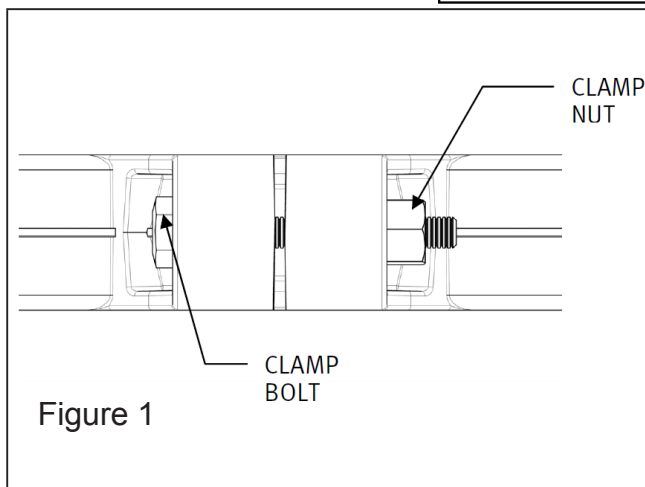
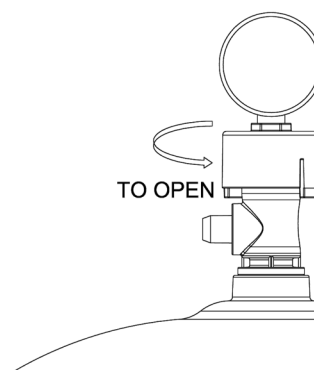

Figure 1
Figure 2
1. Use **ONLY** Original components; Non-Original clamp components may fail in use and cause explosive component separation. Verify that upper and lower filter bodies are properly secured with the filter body clamp. Never rely on hand tightening the clamp nut to the clamp bolt. Using a $\frac{3}{4}$ " socket on a torque wrench, torque clamp nut to clamp bolt to 150 inch-lbs. (See Fig 1) Verify that the filter manual air relief body is in the LOCK position, and no filter components are missing, damaged or not genuine AquaPro components. (See Fig 2)
4. Place the manual air relief valve in OPEN position. (See Fig 2)